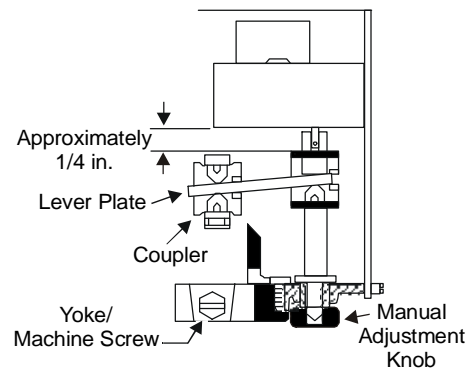

Figure 4: Plate Position
2. Make sure that the lever plate is within 1/4 in. (6.4 mm) of the upper stop. (See Figure 4.)